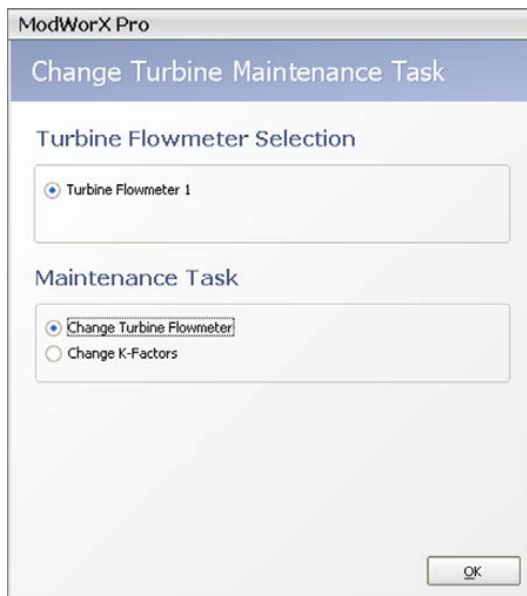

Figure 13.7
1. If Change K-Factor is not displayed in the Maintenance Task field at the top of the Maintain Turbine screen, click on **Change Task**. The Change Turbine Maintenance Task dialog will appear (Figure 13.7).